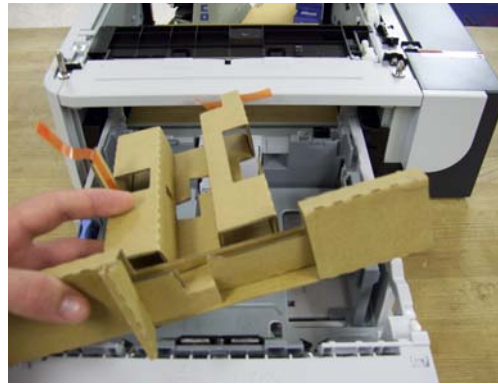

Figure 1
4. Remove the auxiliary paper tray drawer from the auxiliary tray chassis and remove the packing materials from the paper tray compartment (Figure 1).